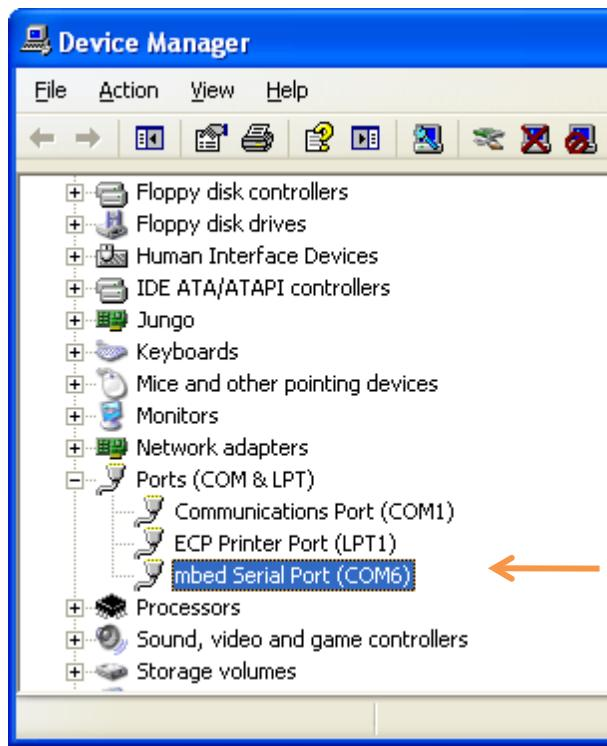

Figure 5. COM port associated with the LinkIt 7687 HDK
- In **Device Manager**, navigate to **Ports (COM & LPT)** (see Figure 5).
- A new **COM** device should appear under **Ports (COM & LPT)** in **Device Manager**, as shown in Figure 5. Note the **COMx** port number of the serial communication port, this information is needed to send command and receive logs from the COM port.
- 5) Select the COM port number that maps to the mbed serial port shown in Figure 5.